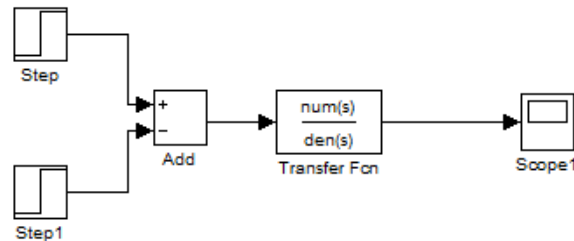

Figure 2.12: Simulink model of toy train
3. Finally, connect the impulse to the input of the system model, and the output to a *Scope*. Your model should look similar to Figure 2.12.